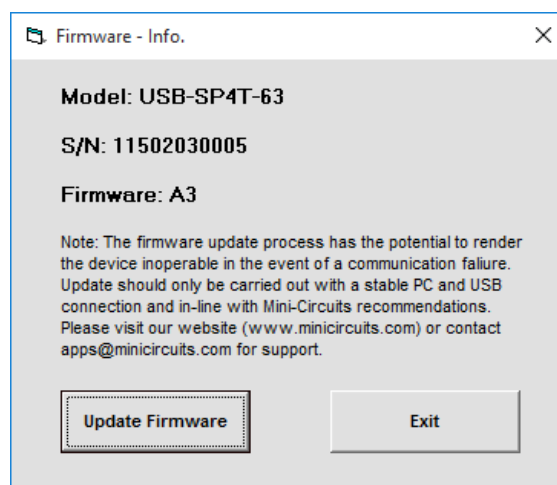

Figure 3.3.4: Firmware Information Window
3.3.4 **Click on the '(fw)' indicator**, this will cause the firmware - info window to open (See Fig. 3.3.4). The 'Firmware' listed is the version of the firmware installed in your switch matrix. Click on "Update Firmware" to select a new firmware version to install or click 'Exit' to close the firmware – info window.